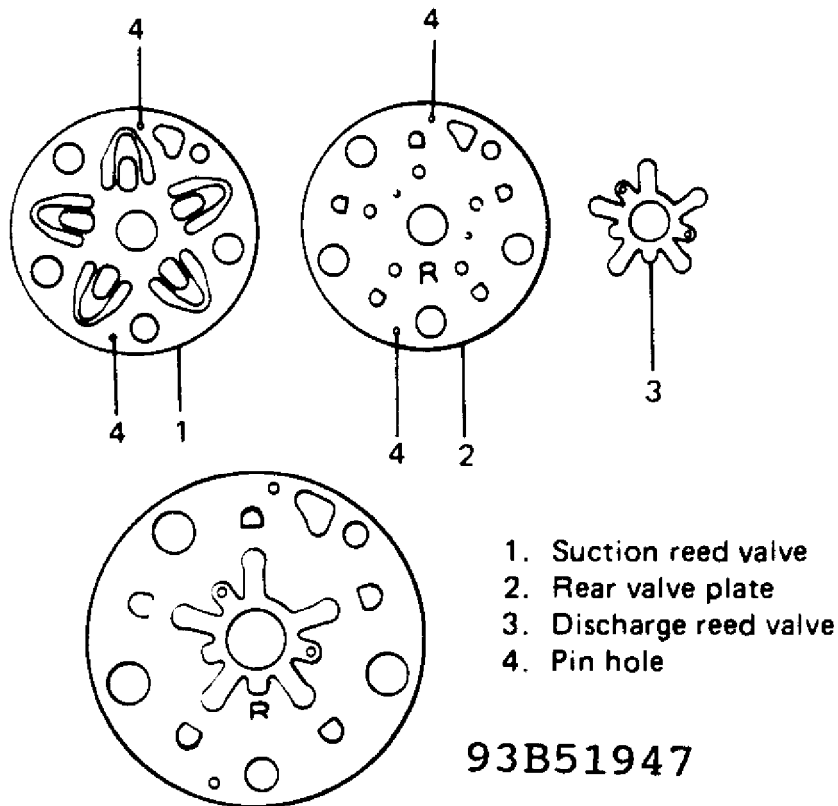

Fig. 23: Rear Valve Installation Points
- c. Install suction reed valve, rear valve plate, and discharge reed valve to rear cylinder top. For installation locations, refer to Fig. 23.